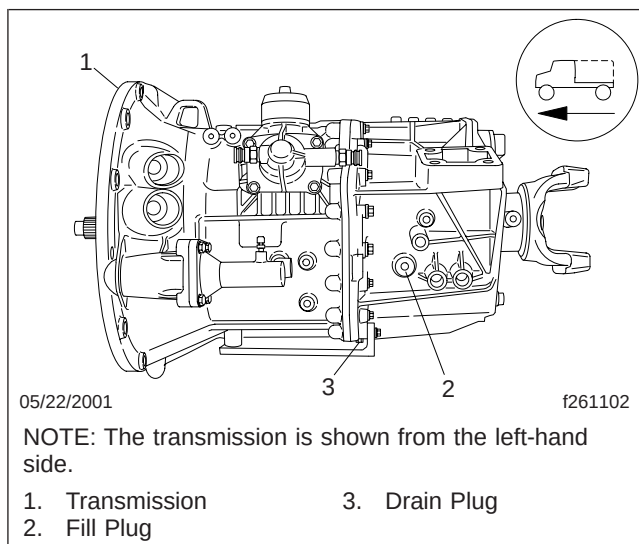
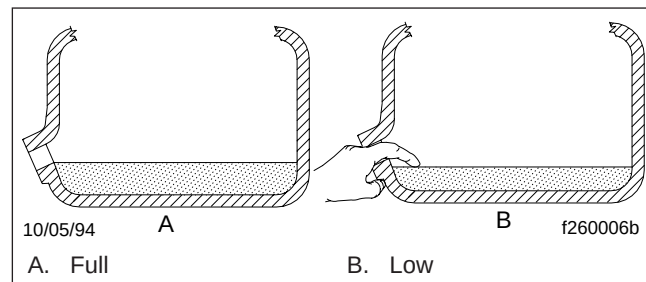

Fig. 19, MBT Transmission Drain and Fill Plugs
Fig. 20, Transmission Fluid Level Checking
2. Drain the transmission fluid. See Fig. 19.
1. Add transmission fluid until it is level with the lower edge of the fill opening. See Fig. 19 for location of the fill plug and Fig. 20 for correct level. See Table 8 for approved transmission lubricants and Table 9 for lubricant capacities.